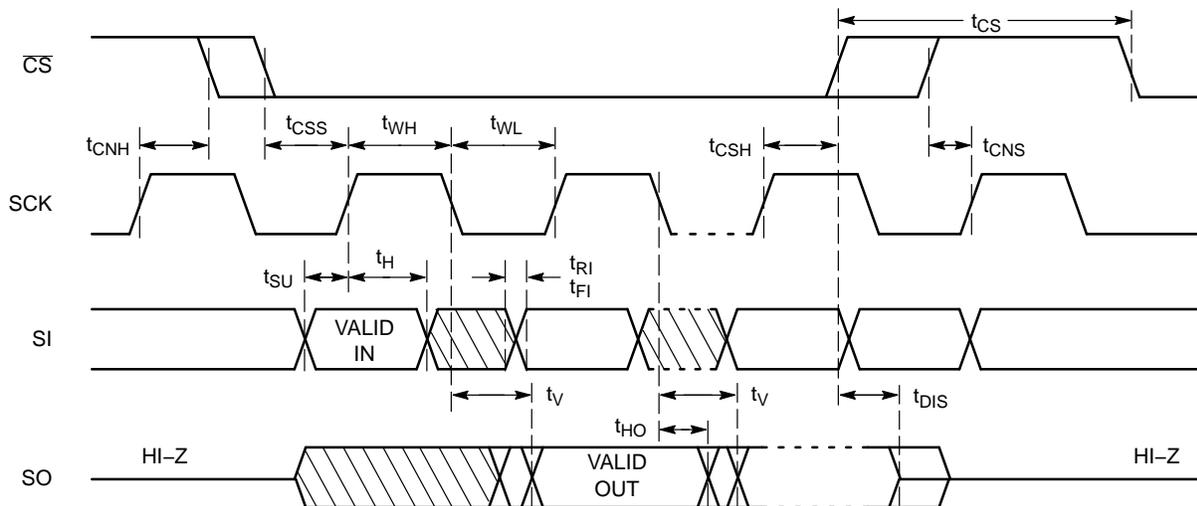

Figure 2. Synchronous Data Timing
8. **All Chip Select (CS) timing parameters are defined relative to the positive clock edge (Figure 2). t_{CSH} timing specification is valid for die revision D and higher. The die revision D is identified by letter "D" or a dedicated marking code on top of the package. For previous product revision (Rev. C) the t_{CSH} is defined relative to the negative clock edge (please refer to data sheet Doc. No. MD-1006 Rev. U)**
After a high to low transition on the \overline{CS} input pin, the CAT25010/20/40 will accept any one of the six instruction op-codes listed in Table 9 and will ignore all other possible 8-bit combinations. The communication protocol follows the timing from Figure 2.